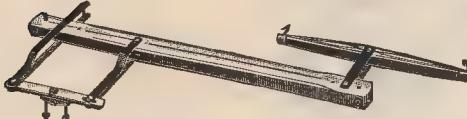

Fig. 203
The Three Horse Hitch, as shown in Fig. 203 . . .	" " 25 " . . .
the use of three horses driven abreast, double and single trees into a complete triple tree. In Fig 203 we show the necessary parts to convert  $\frac{1}{2}$
**Three-Horse Hitch, Fig. 203.** In the operation of the "IRON AGE" Diggers with Elevator attachment throughout the country, the past season, we have observed that very few of them have been operated with more than two horses. However, under adverse conditions and for continuous digging we would recommend
In Fig 203 we show the necessary parts to convert  $\frac{1}{2}$  double and single trees into a complete triple tree. This is sold as an attachment. Price,